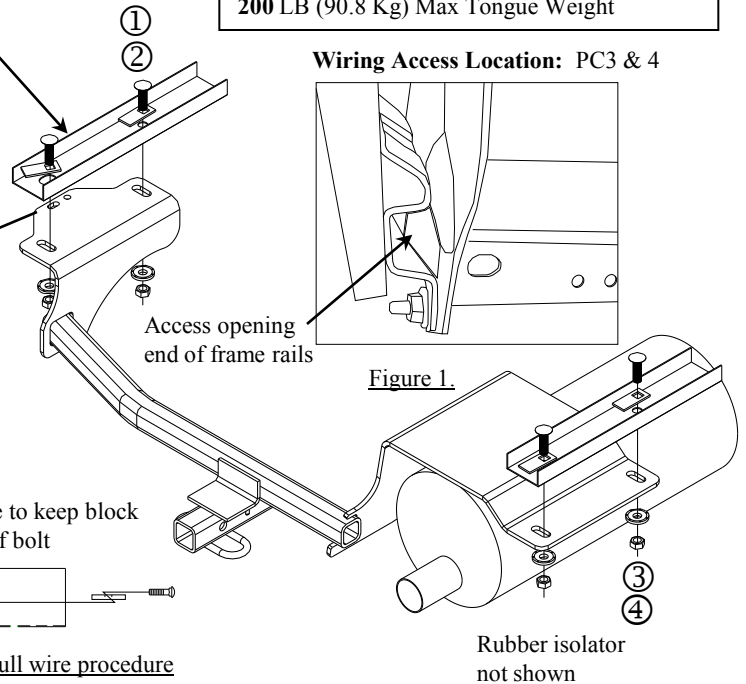

Figure 1.
①	Qty. (4)	Carriage bolt 7/16-14 X 1.50 GR5	⑤	Qty. (1)	Hex bolt 1/4-20 X 1.25
②	Qty. (4)	Spacer	⑥	Qty. (1)	Lock washer 1/4"
③	Qty. (4)	Conical washer 7/16"	⑦	Qty. (1)	Flat washer 1/4"
④	Qty. (4)	Hex nut 7/16-14	⑧	Qty. (1)	Hex nut 1/4-20
- Lower exhaust system at the rubber isolators (2). Note: Spraying a lubricant or soapy water on the metal hanger rod and the rubber isolator helps removal.
- Using a bolt leader insert carriage bolts and spacers into the access opening of the vehicle's frame rail both sides as shown in Figure 1. Leave the bolt leaders attached to bolts until the hitch is in place. On the passenger side with the bolt leaders attached leave the carriage bolt in side the frame for extra clearance for the hitch bracket.